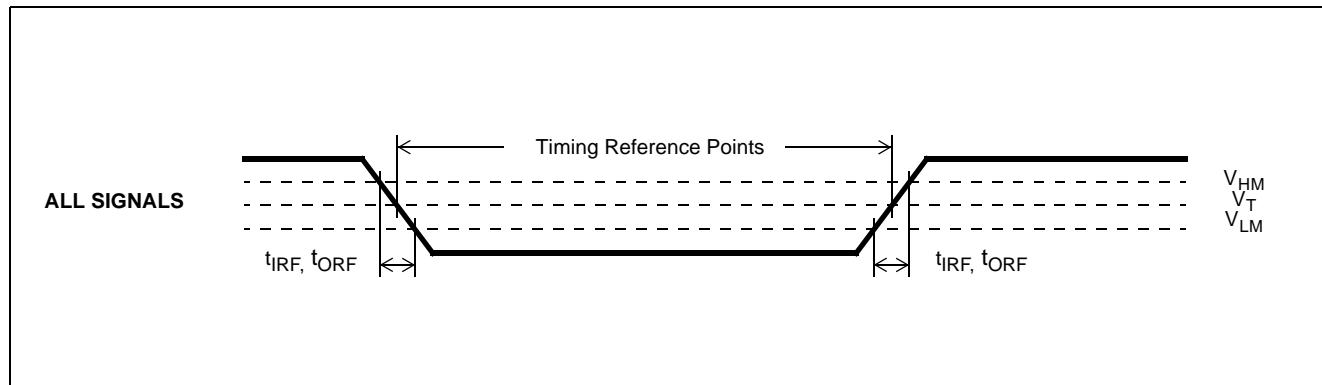

Figure 25 - Timing Parameter Measurement Voltage Levels
**AC Electrical Characteristics\* - Timing Parameter Measurement Voltage Levels (see Figure 25).**